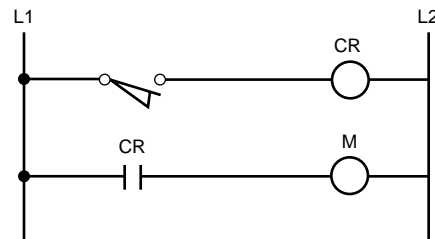

Figure 1.4
Excessive load - If the load exceeds the ratings of the limit switch being used, a control relay (CR) or contactor with proper ratings can be used as in Figure 1-4.